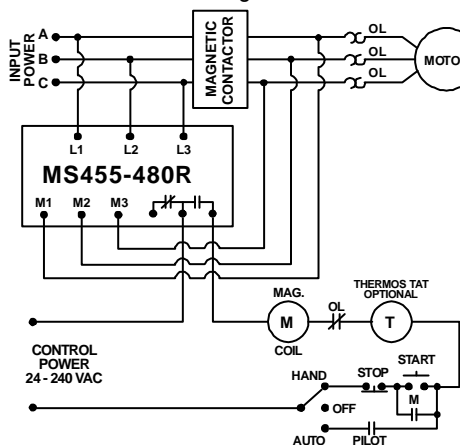

Figure 1: 3-Pole Contactor Wiring Diagram
4. Connect the output relay to the circuitry to be controlled. Connect the normally open contact in series with the magnetic coil of the motor starter as shown in Figure 1.